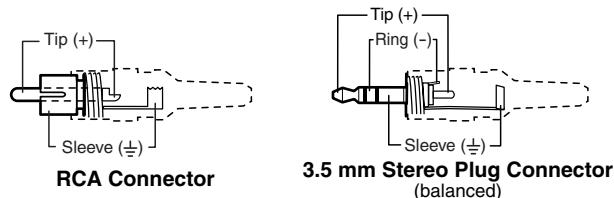
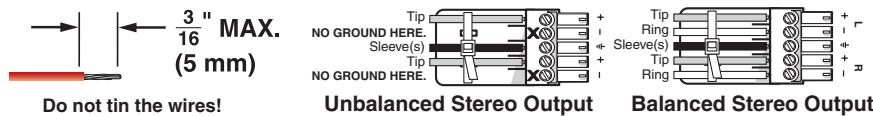

Figure 2-17 — Typical audio connectors
Figure 2-18 — Captive screw connector wiring for audio output
NOTE *See figure 2-17 to identify the tip, ring, and sleeve when you are making connections for the switcher from existing audio cables. A mono audio connector consists of the tip and sleeve. A stereo audio connector consists of the tip, ring and sleeve. The ring, tip, and sleeve wires are also shown on the captive screw audio connector diagrams, figure 2-16 and figure 2-18.*
- ⑤ **Connections for balanced and unbalanced audio outputs** — These 3.5 mm, 5-pole captive screw connectors output the selected unamplified, line level audio. Connect audio devices, such as an audio amplifier or powered speakers. See figure 2-18 to properly wire an output connector. Use the supplied tie-wrap to strap the audio cable to the extended tail of the connector.